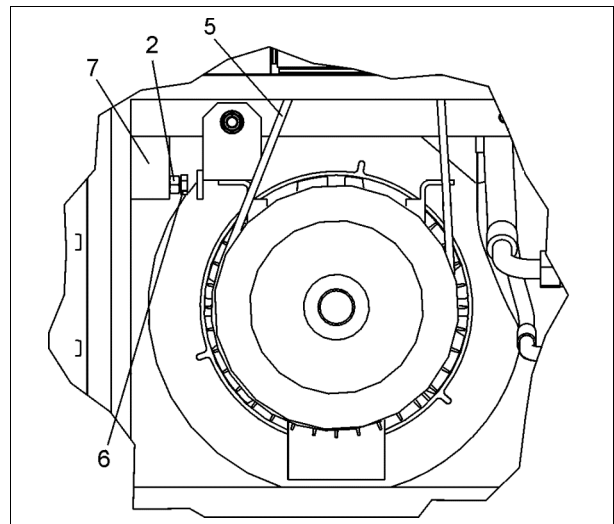

Fig. 13
- Screw the belt adjusting bolt back until it reaches the lock nut (-2- Fig. 13). Tighten lock nut on holder. (-7- Fig. 13).